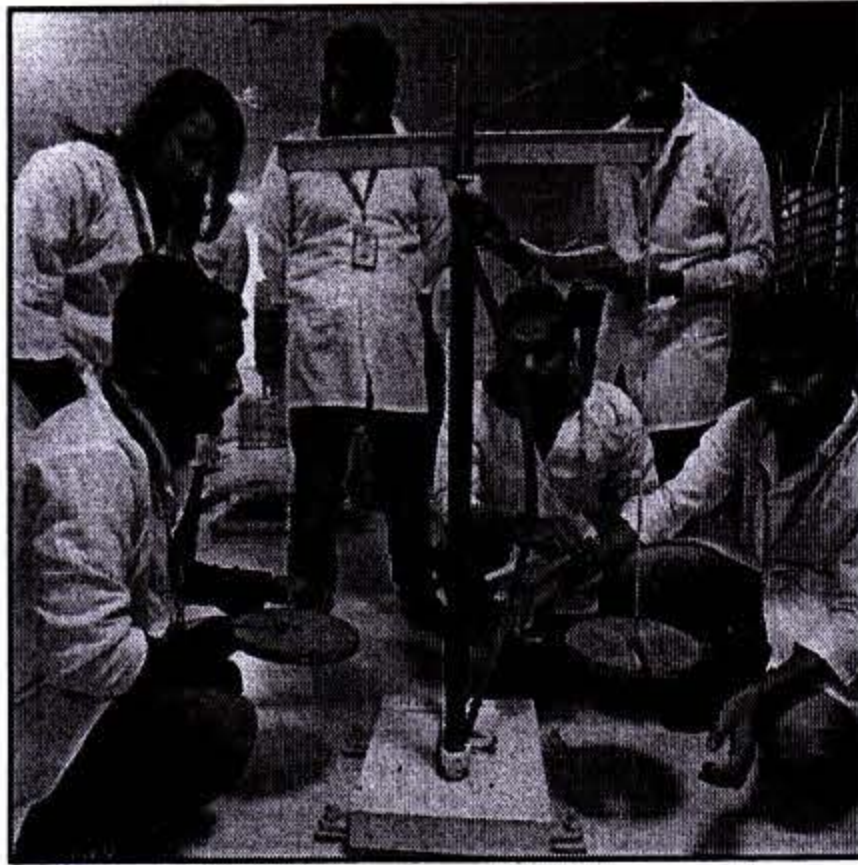

Fig. 1
- Fig. 1 shows UAP-CE students working at SM Laboratory on the buckling test of a 0.75m-long perfectly straight simply supported steel column (of 0.005m-diameter). They find the column to buckle at a compressive load 90-N, when the transverse midspan deflection is 0.10m. Calculate the